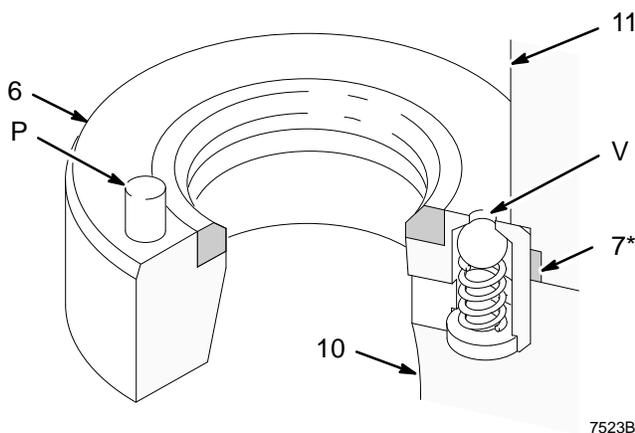

Fig. 14
4. Install the relief valve intake seat (6) in the left side of the lower housing (11), as viewed in Fig. 15 (the arrow on label 35 points to the correct location). The pin (P) on the seat must point up into the housing. The pin limits the positioning of the seat, ensuring that the vent hole (V) is not blocked by part of the housing. Refer to Fig. 14.
5. Install the intake seat without a relief valve (34) in the right side of the lower housing (11).
- ▲ 2 Relief valve intake seat must be installed on the left side of the housing (11), as shown. Orient the seat as shown in Fig. 14.
- ▲ 3 Intake seat without relief valve. **Do not install the relief valve seat (6) on this side of the housing (11).**
- ▲ 10 Chamfered side must face ball (5).